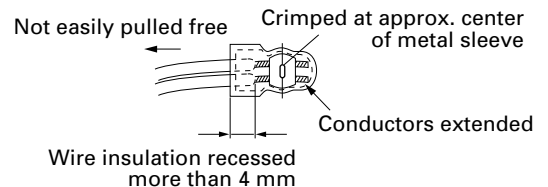

Fig.7
(5) Check the four points noted in Fig.7.